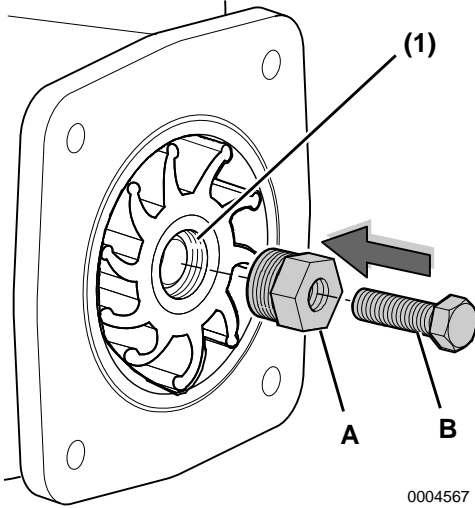

Figure 17
*Note: When replacing a used impeller with a new one, the impeller must have an M18x1.5 thread (**Figure 17, (1)**). Turn the M18 screw side of the impeller to the cover side and install (**Figure 18**).*